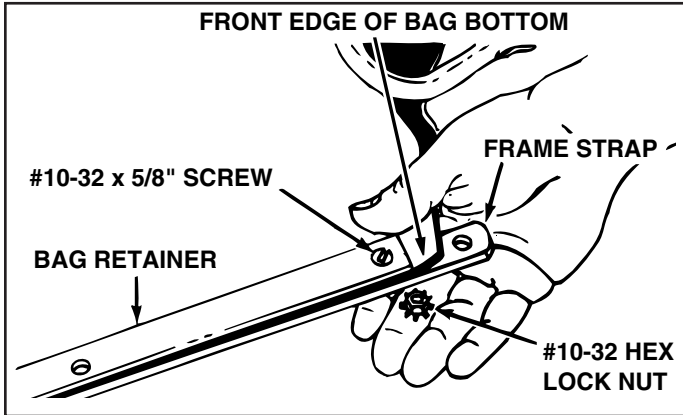

FIGURE 12
- Assemble the bag retainer and the bag frame strap to the front edge of the bag bottom. Place the bag retainer on top and the bag frame strap underneath the bag bottom. Fasten retainer and strap together using six #10 x 5/8" slotted screws and #10-32 hex lock nuts. See figure 12.